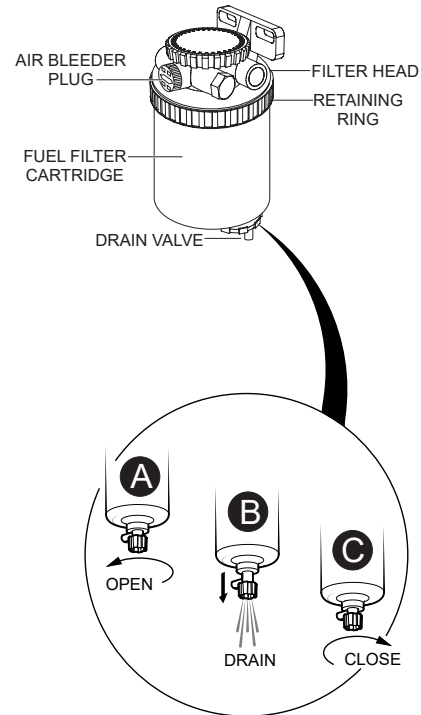

Figure 67. Draining The Fuel Filter
1. Loosen the air bleeder plug (Figure 67) on the fuel filter head.